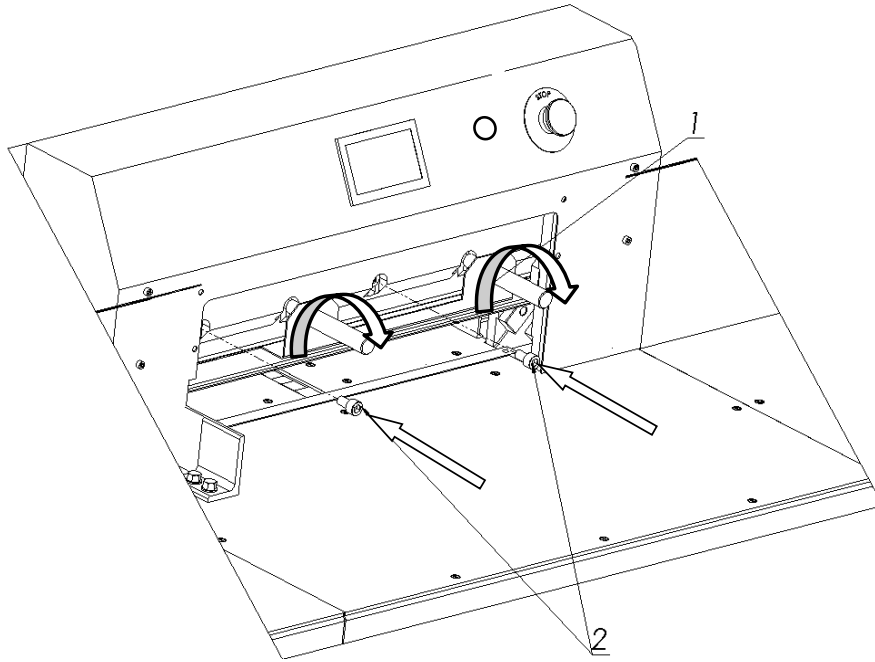
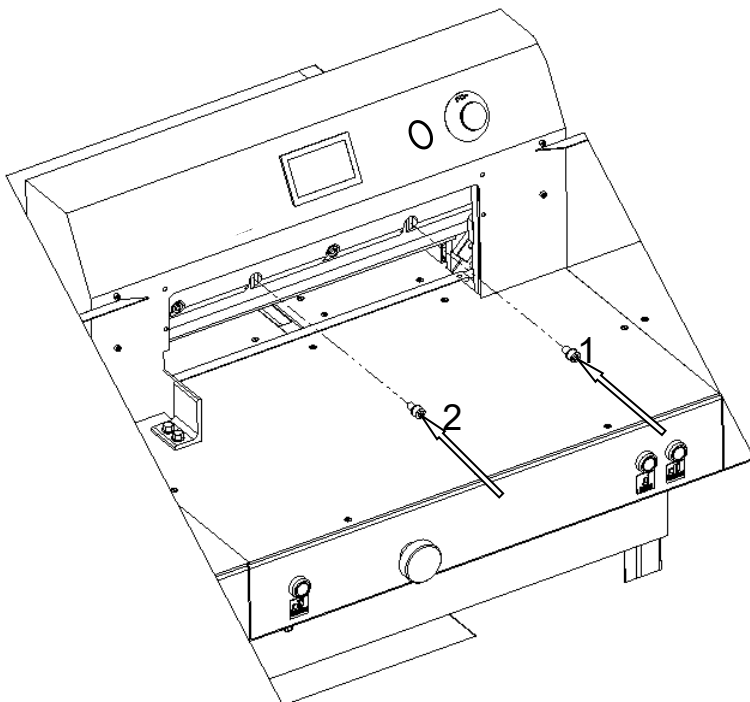

Figure 31.
Figure 32.
8.1.2.4 Pre-attach the knife to the cutter bar by turning both transporting handles 1 to the right (fig. 31).
8.1.2.5 Install the fastening screws 2 (fig. 31).
8.1.2.6 Unscrew both transport lugs 1 (figure 31) and replace them with the mounting screws 1 and 2 (fig. 32).
8.1.2.7 Slightly unscrew the first screw on the left side of the clamping screw 2 (Fig. 31), taking care that the screw head does not protrude above the knife beam sliding plane.
8.1.2.18. Firmly tighten the first screw on the left side of the knife. 2 (Fig. 31).